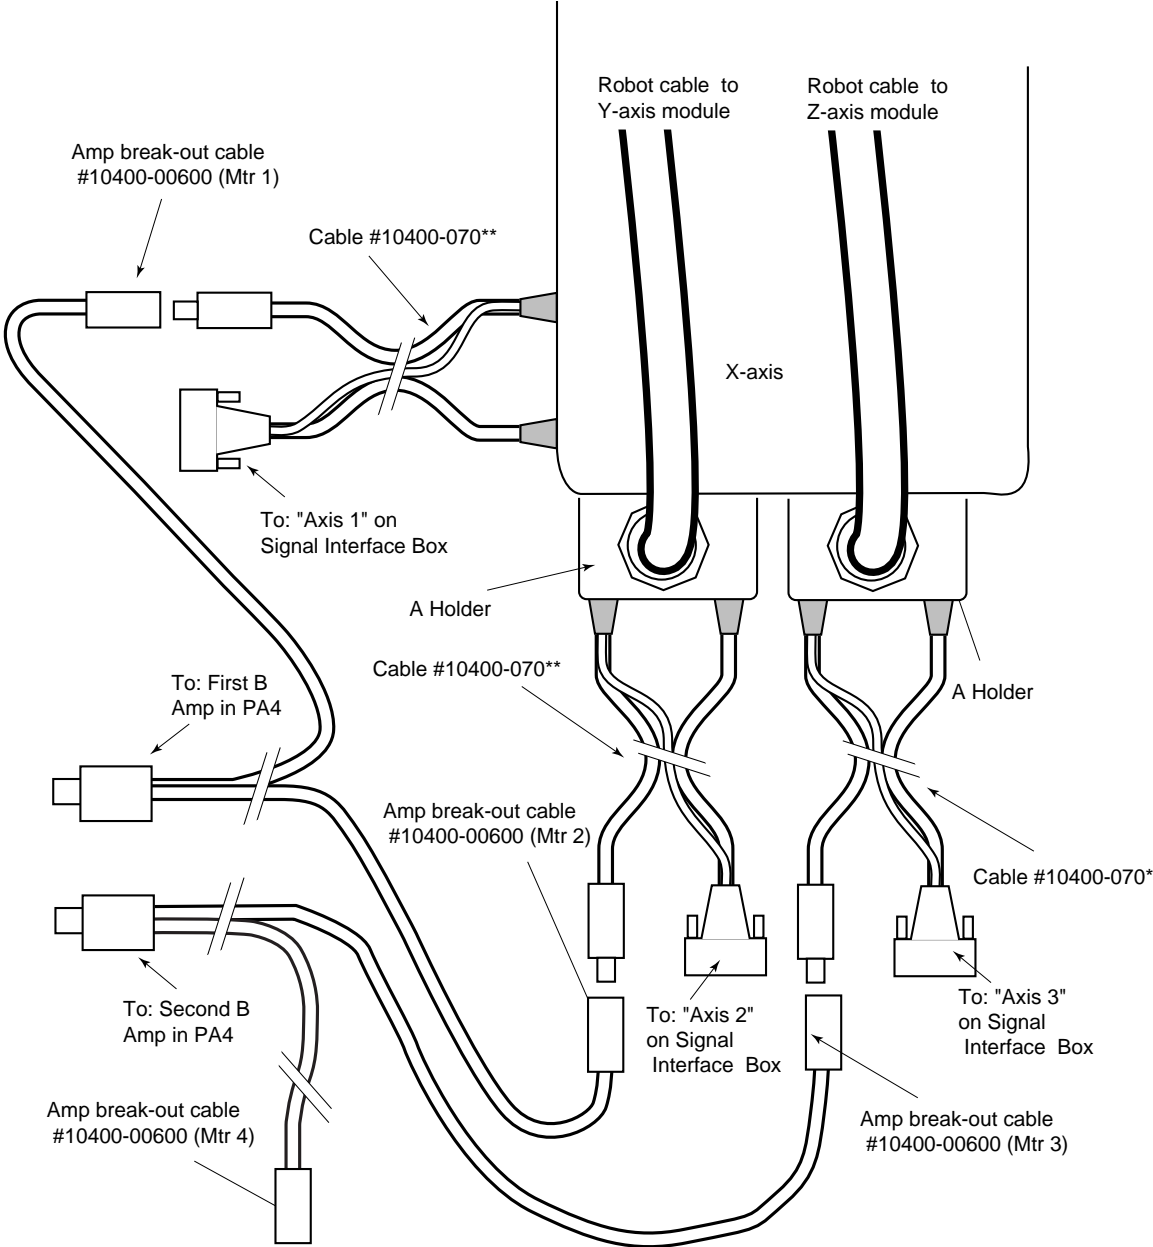

Figure 5-5. Connecting to an Adept MV Controller
- a. Connect the two barrel ends of the cable to the X-axis module as shown in Figure 5-5. These connectors have different pin sizes and cannot be installed incorrectly.
- b. Attach the A holder end of the robot cable to the side of the X-axis as shown in Figure 5-5 (refer to Section 4.3 for holder mounting).
- c. Connect the two barrel ends of the cable to the A holder as shown in Figure 5-5. These connectors have different pin sizes and cannot be installed incorrectly.